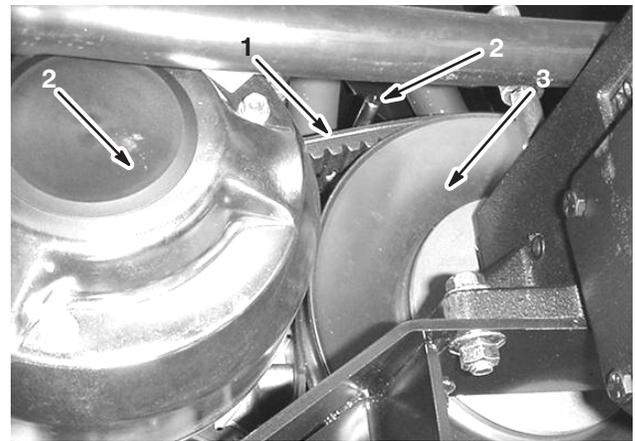

Figure 52
1. Loosen the 2 belt guides near the secondary clutch (Fig. 52).
2. Rotate and route the belt over the secondary clutch (Fig. 52).
3. Remove the belt from the primary clutch (Fig. 52).
4. Place the new belt over the primary clutch (Fig. 52).
5. Rotate and install it over the secondary clutch (Fig. 52).